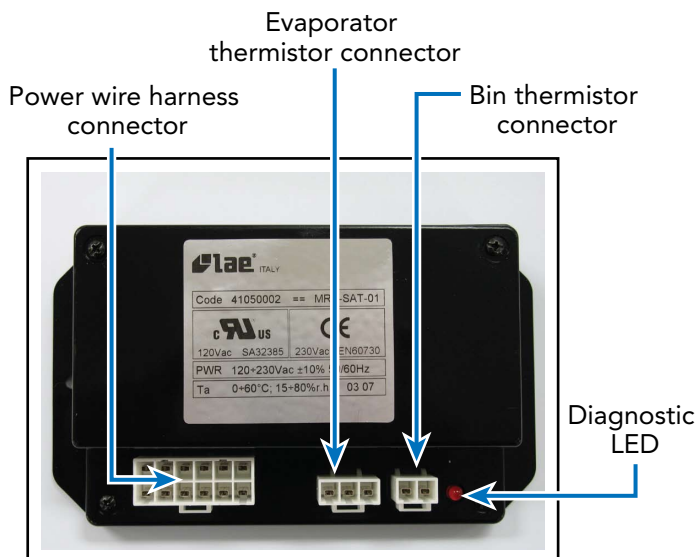

Figure 15
4. Disconnect evaporator thermistor connector at electronic controller. (Refer to **Figure 15** for connector location).